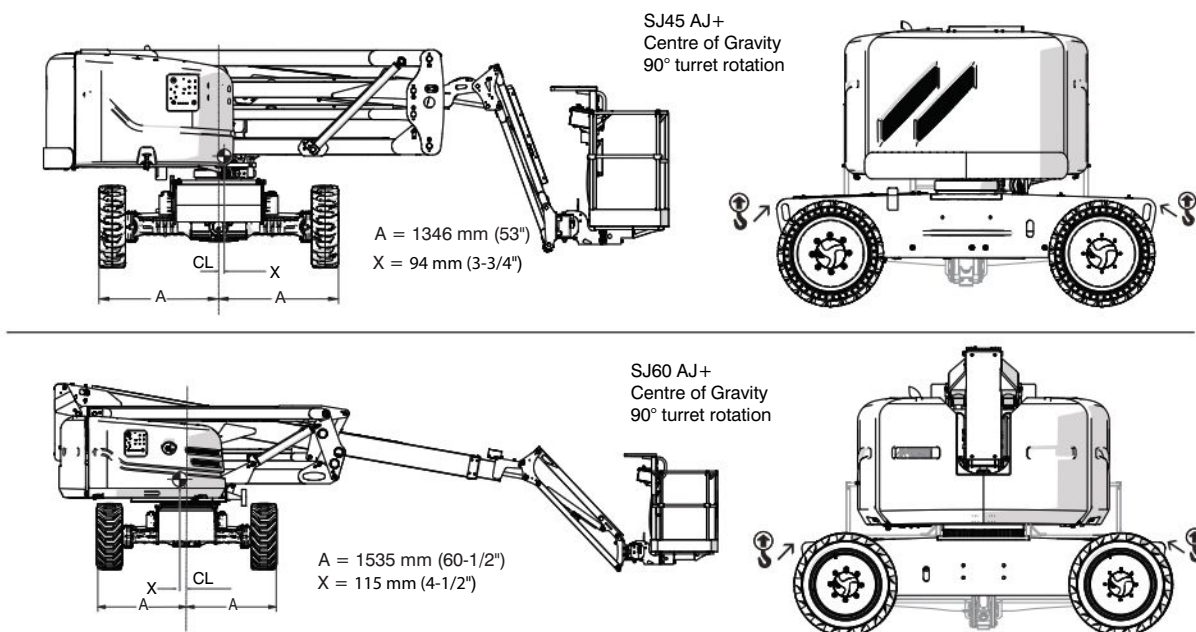

Figure 08 Lift points and center of gravity
1. Rotate the boom and put the MEWP in the position shown in *Figure 08*.
4. Attach the rigging to all four lift points as shown and adjust the rigging to make sure the MEWP stays level when you hoist it. Refer to *Figure 08*.
5. Adjust the rigging to make sure the MEWP stays level when you hoist it. Refer to *Figure 08* for the center of gravity location.